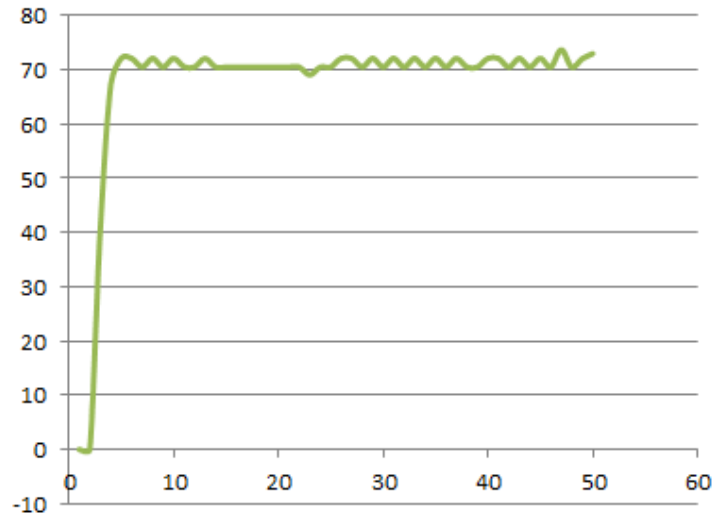

Figure 1A: Excel plot of `nxtMotorData.csv`
In Excel, you should have a plot that resembles **Figure 1A**.
- 1-1 Figure 1A is an example of an open-loop step (velocity) response to a 75% motor command. From the plot, calculate the rise time. Recall that rise-time (also called time constant) is defined as 63.3% of steady-state.